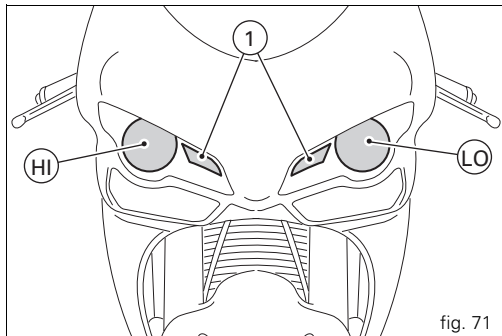

fig. 71
Before replacing a burnt-out bulb, make sure that the new one matches the voltage and wattage specifications in the "Electrical System" paragraph on page 106. Always check that the new bulb works before refitting removed parts. Figure 71 shows the position of the low beam (LO), high beam (HI) and parking light (1) bulbs.